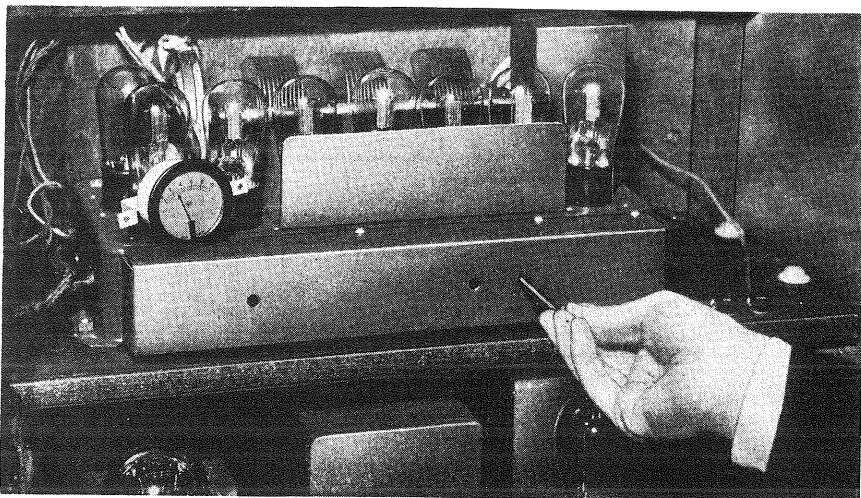

Figure 15—Adjusting the trimming condensers
- (d) Locate the position of the compensating condenser. (See Figure 15).
- (d) Now adjust the oscillator trimming condenser on the right (Figure 15) with the non-metallic screw-driver until a maximum deflection is obtained in the tuning meter while tuning back and forth through the signal.